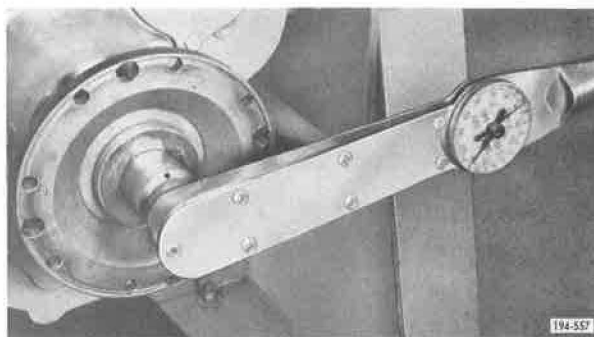

Figure 5-535. Torquing Capscrew
7. Place two sliding clutches into engaged position, which will lock up assembly, and tighten drive flange (or yoke) clamp plate capscrew to recommended torque. See Figure 5-535. Refer to Torque and Tolerance Table, Item 13.